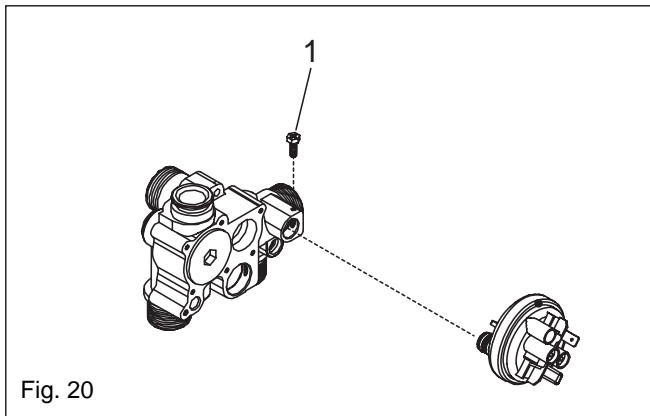

Fig. 20
6.8 WATER PRESSURE SWITCH (see fig. 20)